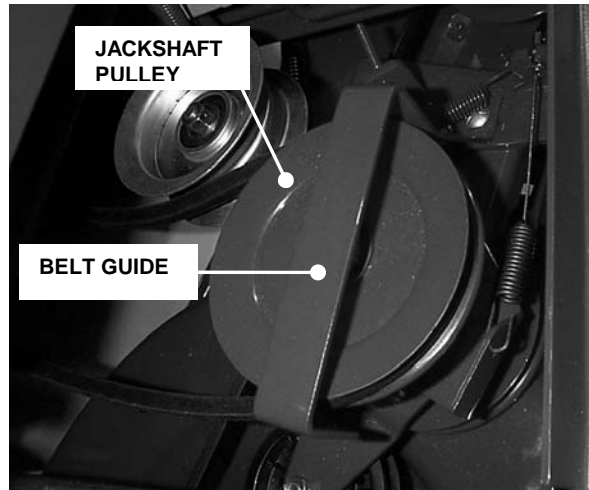

FIGURE 4.6
3. Remove belt guide at deck jackshaft pulley. See Figure 4.6.